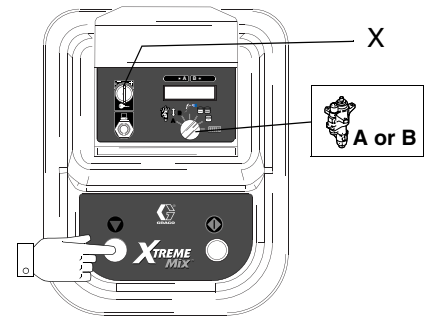

FIG. 12
3. Turn knob to pump A  FIG. 12. Hold down Stop  button about 5 seconds. The default calibration (number between 85000 - 95000) displays.
4. Use key (X) to change default to calibration value noted previously.
7. Use key (X) to change default to calibration value noted previously.